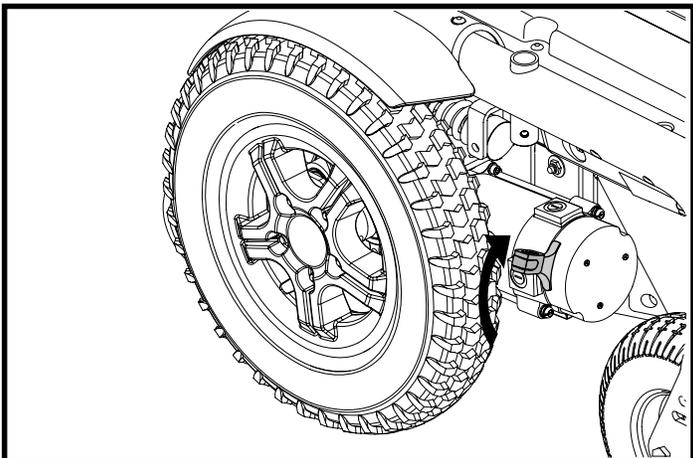

Figure 9. Drive Mode (Drive Engaged) - Hammer and H2 Motors
2. Push the manual freewheel levers in or pull them up for drive mode (drive engaged). See figure 9 or 11.